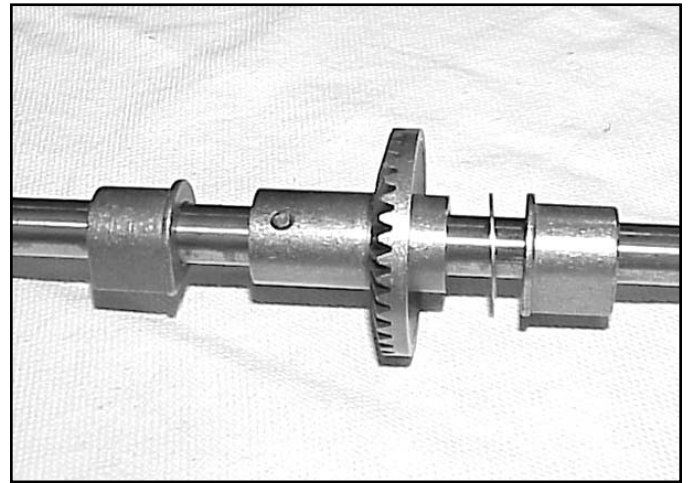

Fig 085
3. Install the transmission bearings with the flange facing the gear (Fig. 085).